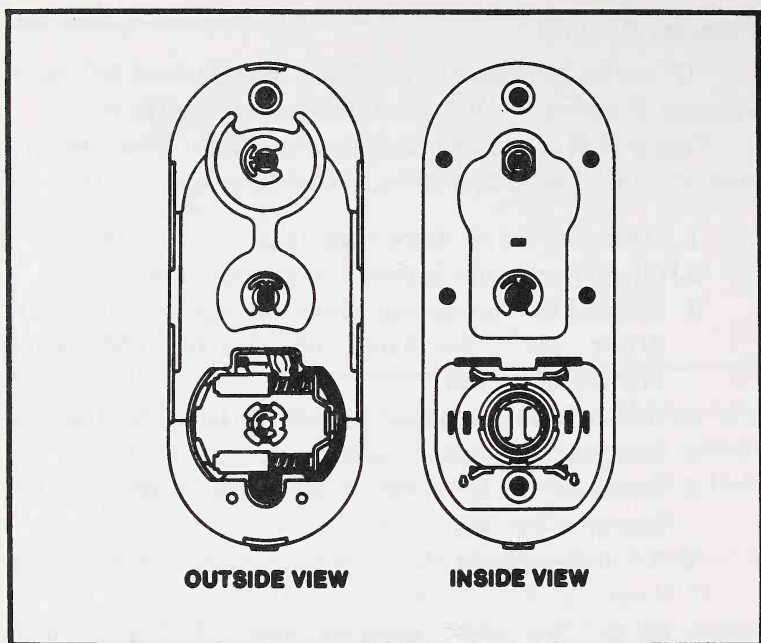

Fig. 18-49.
1. Disengage the retaining rings (Fig. 18-49).